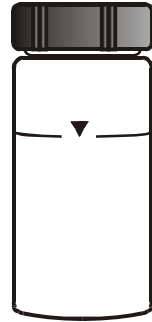

Figure 6:
1. Obtain a clean and dry sample vial (Figure 6).